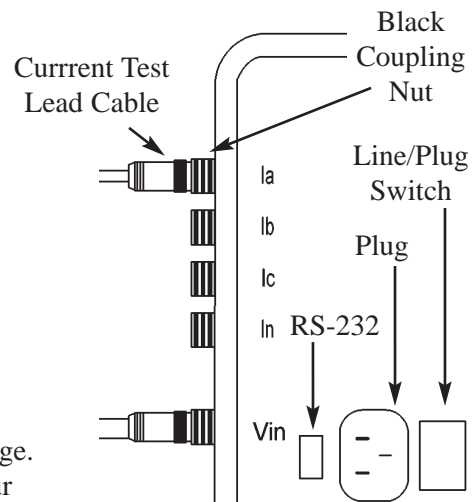

Fig. 3.1: Connectors
2. Turn **black coupling nut** to right to secure (Figs 3.1, 3.2).